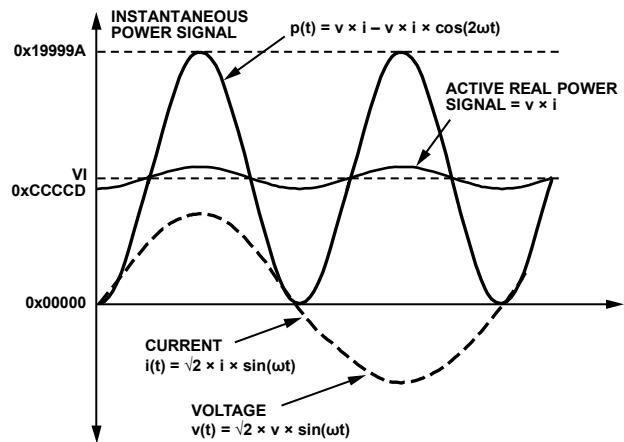

Figure 64. Active Power Calculation
Note that the active power is equal to the dc component of the instantaneous power signal $p(t)$ in Equation 11, that is, VI . This is the relationship used to calculate active power in the ADE7116/ADE7156/ADE7166/ADE7169/ADE7566/ADE7569. The instantaneous power signal $p(t)$ is generated by multiplying the current and voltage signals. The dc component of the instantaneous power signal is then extracted by LPF2 (low-pass filter) to obtain the active power information. This process is illustrated in Figure 64.
The ADE7116/ADE7156/ADE7166/ADE7169/ADE7566/ADE7569 also incorporate an active power offset register (WATTOS[15:0], Address 0x20). It is a signed, twos complement, 16-bit register that can be used to remove offsets in the active power calculation (see Figure 64). An offset can exist in the power calculation due to crosstalk between channels on the PCB or in the IC itself. The offset calibration allows the contents of the active power register to be maintained at 0 when no power is being consumed.
As mentioned in the Active Energy Calculation section, the discrete time sample period (T) for the accumulation register is 1.22 μ s (5/MCLK). With full-scale sinusoidal signals on the analog inputs and the WGAIN register (Address 0x1D) set to 0x000, the average word value from each LPF2 is 0xCCCCD (see Figure 64). The maximum positive value that can be stored in the internal 49-bit register is 2^{48} (or 0xFFFF,FFFF,FFFF) before it overflows. The integration time under these conditions when WDIV = 0 is calculated in the following equation: